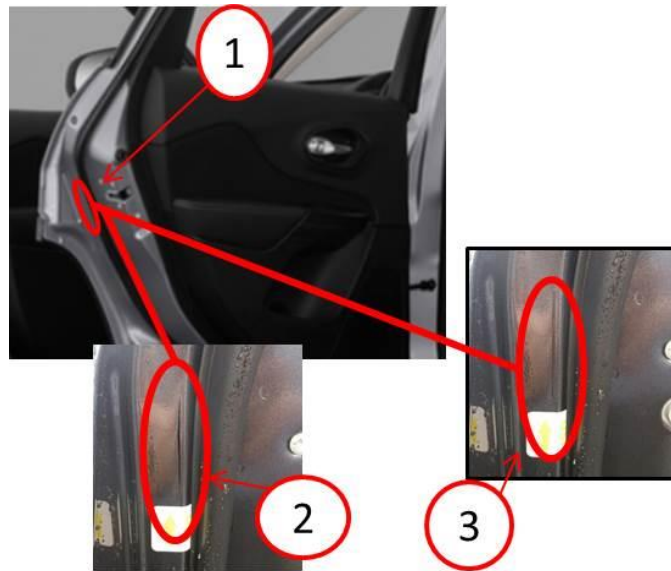

Fig. 1 Split Or Strain Examples With Location View
The customer may notice the metal adjacent to the latch is split or not smooth to the touch. This indicates the metal near the left rear door latch area is strained or split (Fig. 1).
2. Is there a split or strained in the metal by the latch (Fig. 1)?